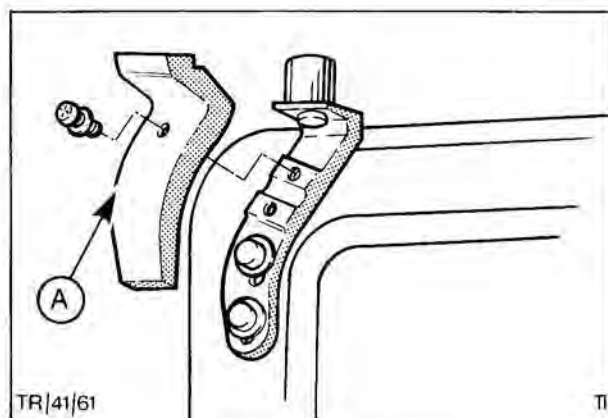

Fig. 44. Shroud assembly upper guide arm
12. Position shroud on upper guide arm and secure with screw and washer assembly, Fig. 44.